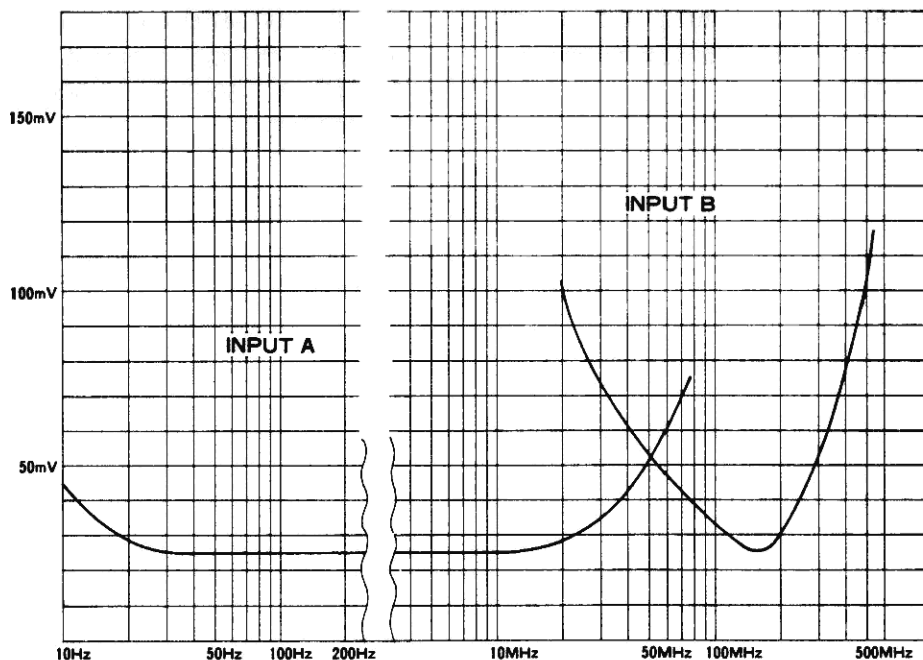

Figure 1 Characteristic of Frequency Response
The counter counts the number of pulses that pass through the gate. If the gate opens as in the top drawing (A) in Fig. 1, the counter will count 15 pulses. If it opens as in the bottom drawing (B), it will count 14 pulses although the frequency is the same for both cases.